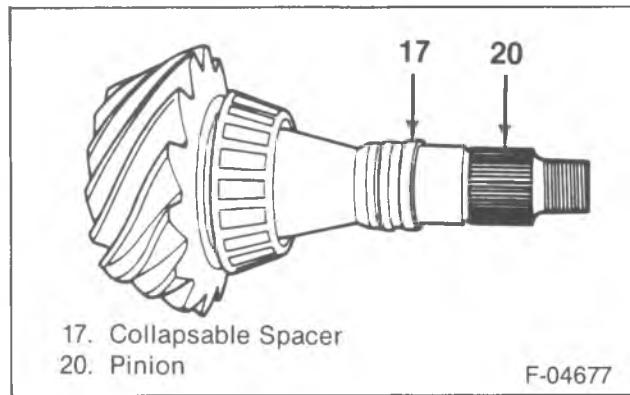
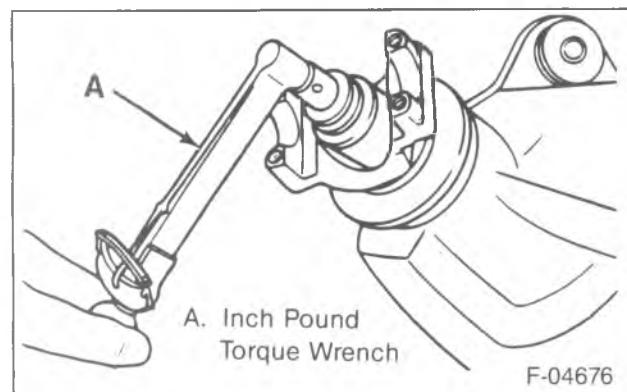
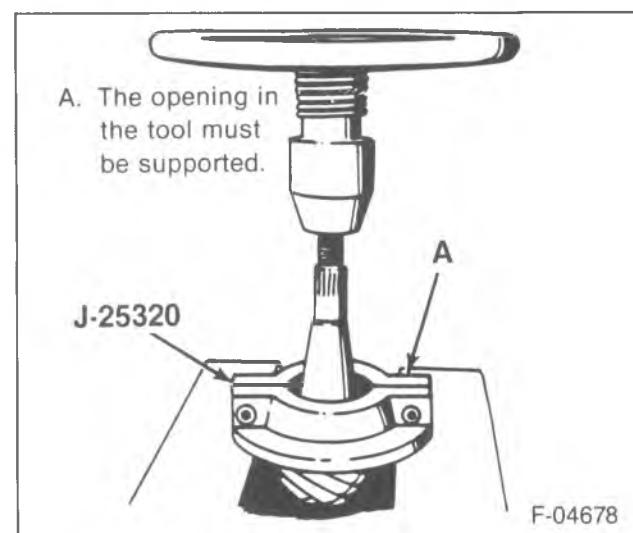

Figure 5—Pinion Collapsible Spacer
Figure 4—Checking Pinion Preload
Figure 6—Removing the Pinion Rear Bearing
- Drive pinion bearing preload (figure 4).
14. Pinion flange nut (11) and washer (12) using J 8614-01 to hold the pinion flange.
16. Pinion (20) from the axle housing.
- Replace the differential cover (34) with two bolts (35) to keep the pinion from falling to the floor.
- Remove the cover (34) and the pinion (20).
17. Collapsible spacer (17) from the pinion (figure 5).
18. Outer seal (14) and outer pinion bearing (15).
19. Inner bearing (18) and shim (19) from the pinion.
- Press the bearing off the pinion using J 25320 (figure 6).
20. Bearing cups (15) and (18) from the axle housing using a hammer and a punch in the slots provided for this purpose.